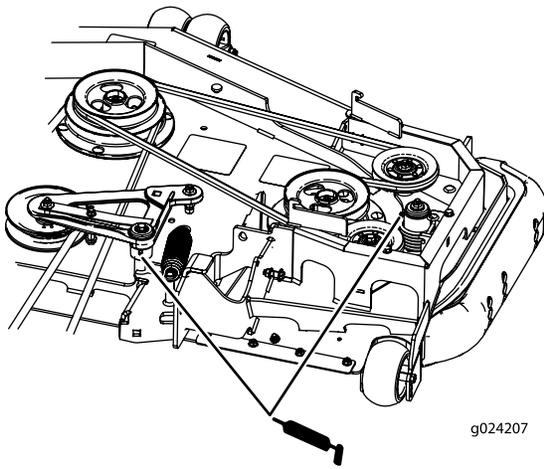

Figure 56
7. Grease the deck-belt idler arms (rear discharge machines only) as shown in Figure 56.